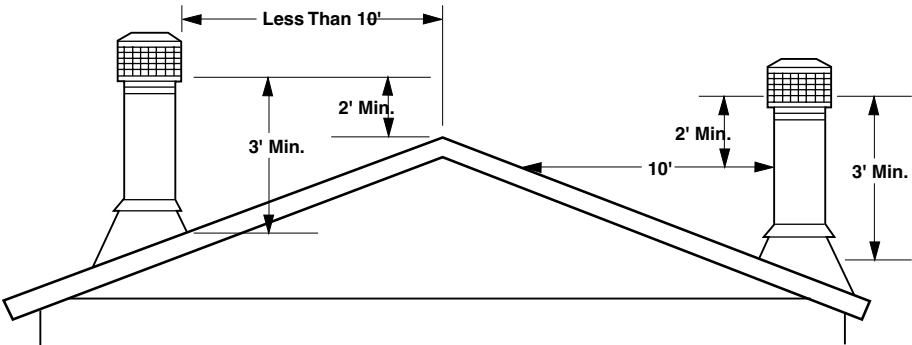

Figure 5
8. Figure 5 illustrates the correct height of your chimney top. It is unlikely that your installation does not adhere to the installation instructions. However, if not correct, you could experience an unusual downdraft. Usually, the best solution is to increase the chimney height. This may also be necessary if nearby trees, adjoining roof lines or a hill is causing a downdraft condition.